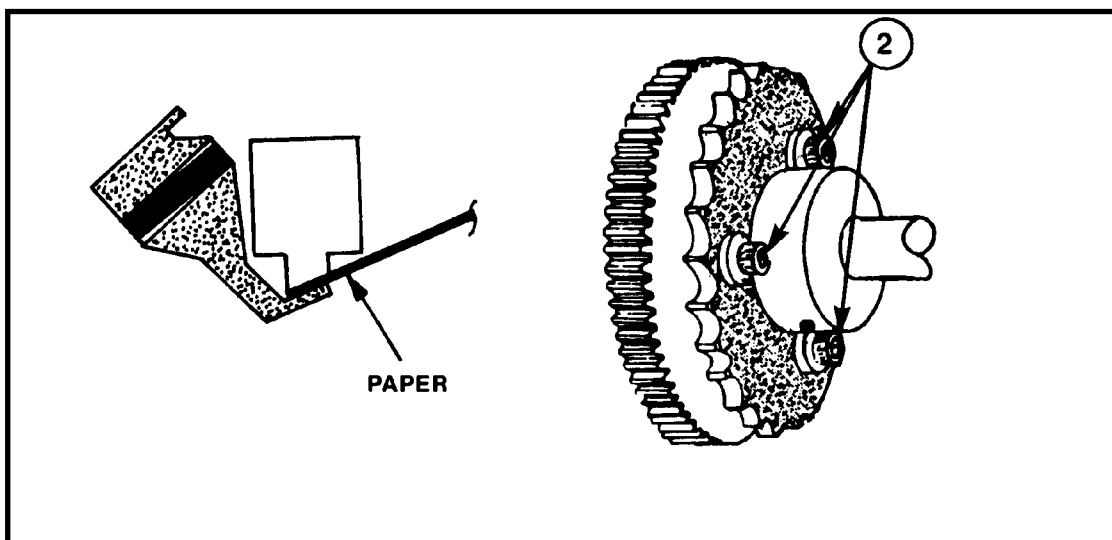

Figure 64 - Chain Delivery Gripper to Impression Cylinder Gripper Timing Adjustment
- a. Loosen the three sprocket mounting screws (2) (see Figure 64).